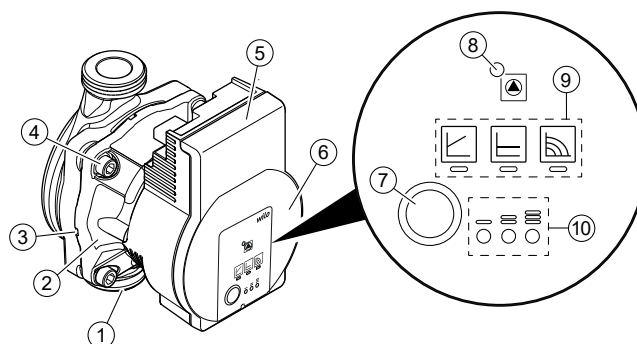

Figure A1-1: Pump components and control panel
- Run/Fault signal LED (item 8, Figure A1-1)
- Control mode display LEDs (item 9, Figure A1-1)
- Pump curve display LEDs (item 10, Figure A1-1)
Operating button - Green (item 7, Figure A1-1)
The Run/Fault signal LED (item 8, Figure A1-1) will indicate if there is a fault with the pump and can assist in diagnosing and rectifying that fault as detailed in Table A1-3 below: